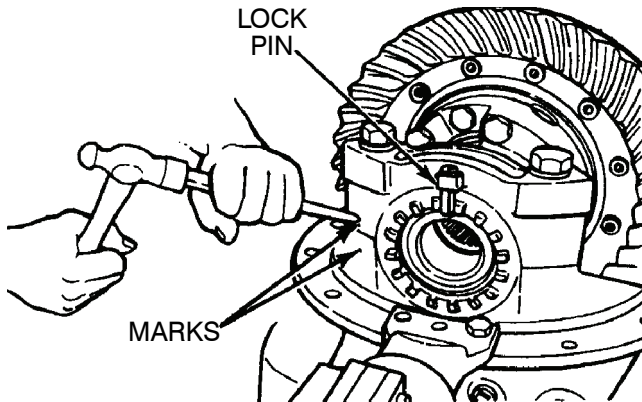

Figure 29. Lock Pin Removal.
- (1) Move the carrier so that the ring gear is toward you.
- (2) Use a punch and a hammer to mark the position of the bearing caps on the legs of the differential carrier. Figure 29.
- (3) If lock pins are used on the adjusting rings, use a hammer and a drift to remove the lock pins for adjusting rings on the bearing caps. Figure 29. If cotter pins are used on the adjusting rings, remove the cotter pins.